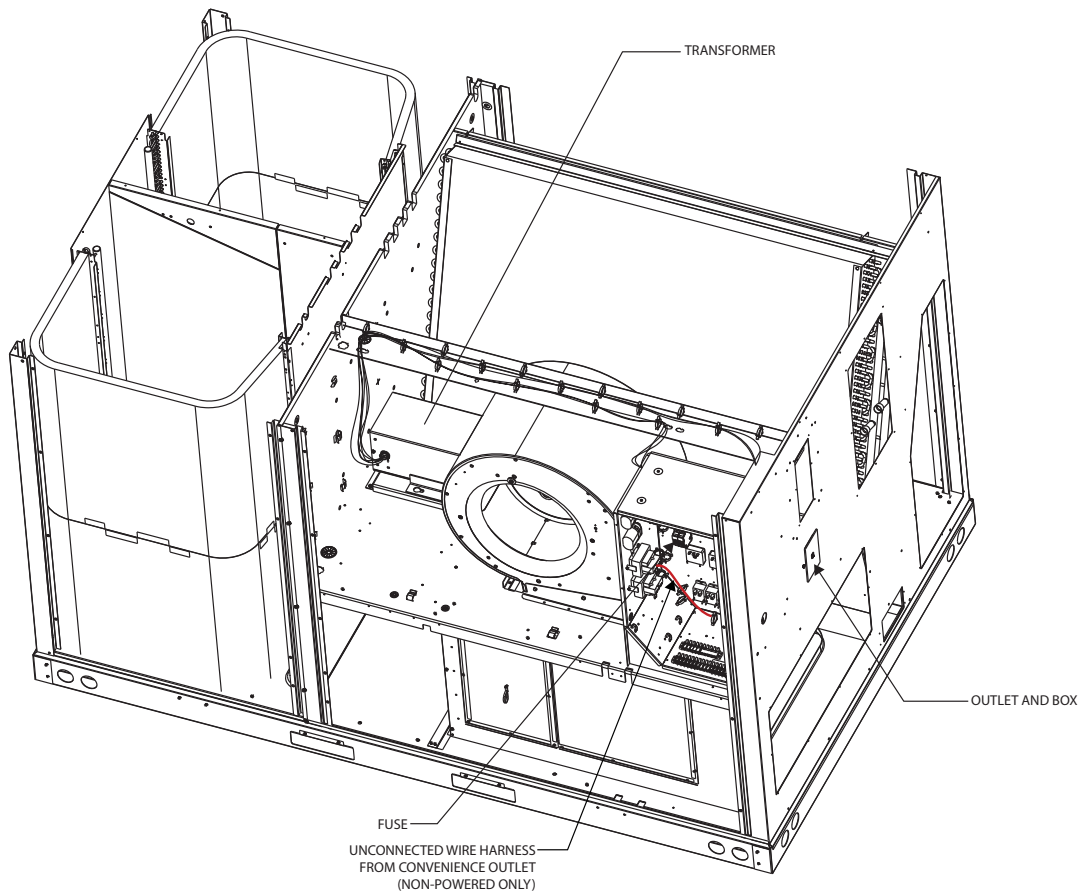

Figure 2: 7.5 -12.5 Ton Units (DR and DB Models)
2. Locate the factory installed outlet power harness inside the unit's control box. (Figure 2 - available in DR and DB models)